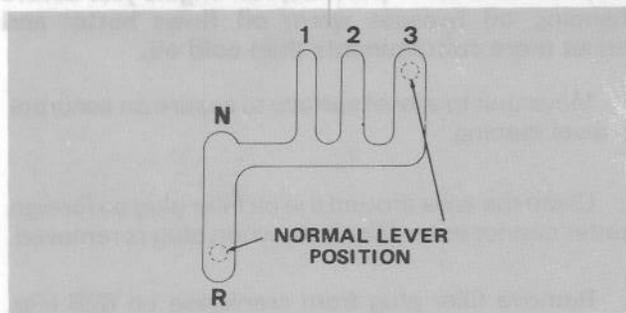
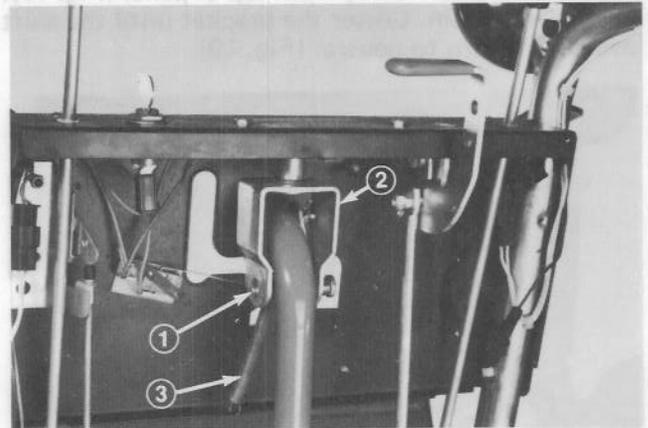

Figure 16
Figure 17
1. Move gear shift into "third" gear and check position of lever (Fig. 16). Lever should be in normal position (Fig. 16). Move shift lever to "reverse" position and release lever. Lever should return freely to "neutral" position. If lever functions are incorrect, proceed to step 2 and adjust the U-shaped pivot bracket securing the shift lever assembly (Fig. 17).
2. Shift into "first" gear. Remove hair pin cotter, flat washer and clevis pin retaining gear shift in place (Fig. 17). Next, move gear shift away from U-shaped pivot bracket and rotate the pivot bracket one complete turn (Fig. 17). Then reinstall gear shift.
Note: Rotate U-shaped pivot bracket clockwise — in — to lower wheel drive control lever, and counter-clockwise — out — to raise the lever (Fig. 17).
1. With engine running, shift to reverse and release the shift lever. The lever should return to neutral. If it does not, turn the engine off, remove hair pin cotter, flat washer and clevis pin retaining gear shift; separate gear shift from U-shaped pivot bracket and rotate U-shaped bracket counter-clockwise 1/2 turn away from top of panel (Fig. 17). Try reverse again. Lower the bracket until the shift lever will return to neutral (Fig. 19).